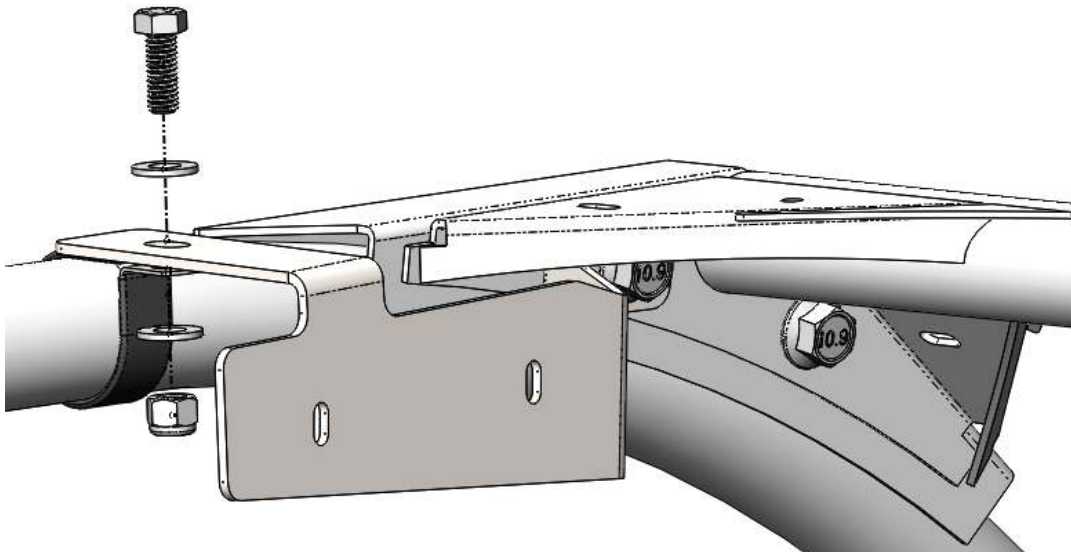

Figure 5: Hardware for mounting the loop clamps to the brackets.
4. Use the supplied $3/8''$ -16 x 1'' bolts, washers, and nylock nuts to secure the loop clamp to the mounting bracket. Snugly tighten both the loop clamp bolt and the front cross member bolt, waiting to fully tighten them until the *Audio Mini* is in the final desired position. See Figure 5.